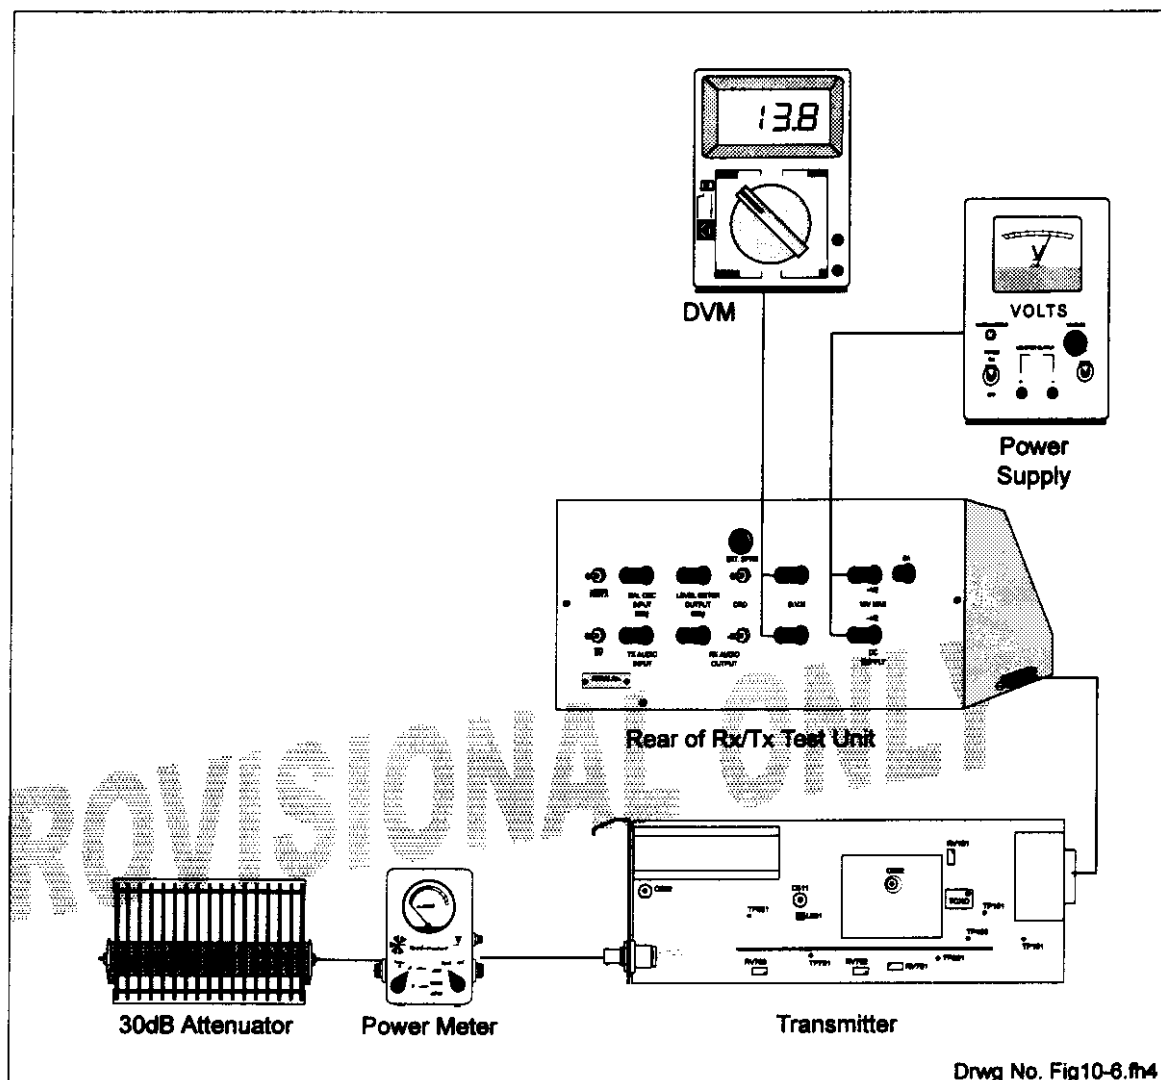

Figure 10.6: Alignment and Functional Checks Set-up
3. Connect the power supply and the digital voltmeter to the Type 2501 Test Set, then use a short ribbon cable to connect the Type 2501 to the rear plug on the transmitter PCB. Finally, use a short length of co-axial cable to connect the RF output plug on the transmitter PCB to the RF power meter, terminated with a 30 dB attenuator. Refer to Figure 10.6 for connection details.
1. Connect the transmitter PCB to the test equipment as shown in Figure 10.6. Connect the frequency counter to the output of the attenuator. Allow the equipment to be fully warmed up, then turn the modulation down to 0 mV_{rms}.
1. Connect the transmitter PCB to the test equipment as shown in Figure 10.6.